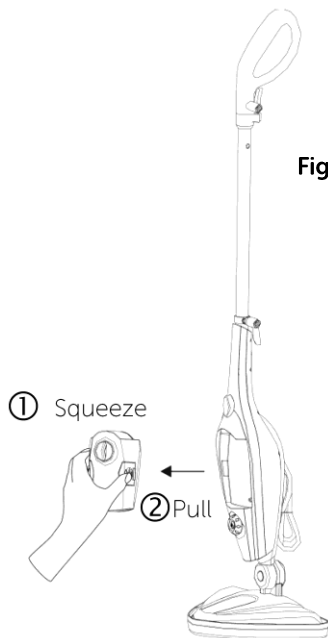

Fig. 7
5. Squeeze both the water reservoir release buttons together and lift out the reservoir (fig. 7).